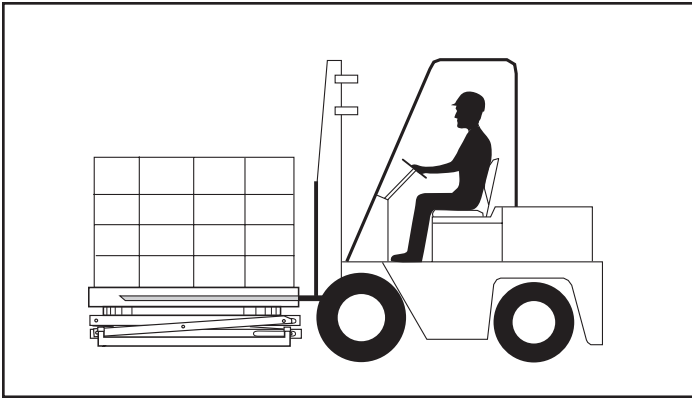

Fig. 7 Loading with a Fork Lift
1. Place the load on the lift, then lower the fork lift. Before removing the load, be sure the unit is carrying the weight, not the fork lift. See Fig. 7.